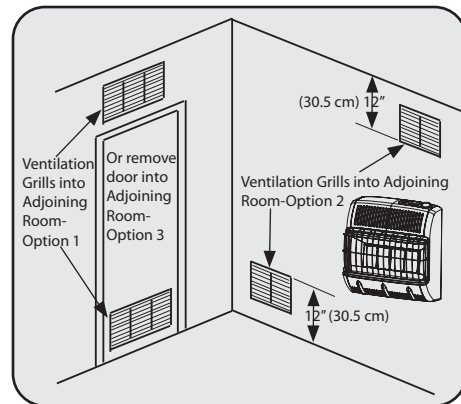

Figure 2
- a. Rework worksheet, and the space of an adjoining room. If the extra space provides an unconfined space, remove door to adjoining room or add ventilation grills between the rooms. See Ventilation From Inside Building (Fig. 2)
This fresh air would come from an adjoining unconfined space. When ventilation to an adjoining unconfined space, you must provide two permanent openings: one within 12" of the ceiling and one within 12" of the floor on the wall connecting the two spaces (see options 1 & 2 of figure 2). You can also remove door into adjoining room (see option 3, fig 2). Follow the National Fuel Gas Code NFPA 54/ ANSI Z223.1, Section 5.3, Air for Combustion and Ventilation for required size of ventilation grills or ducts.